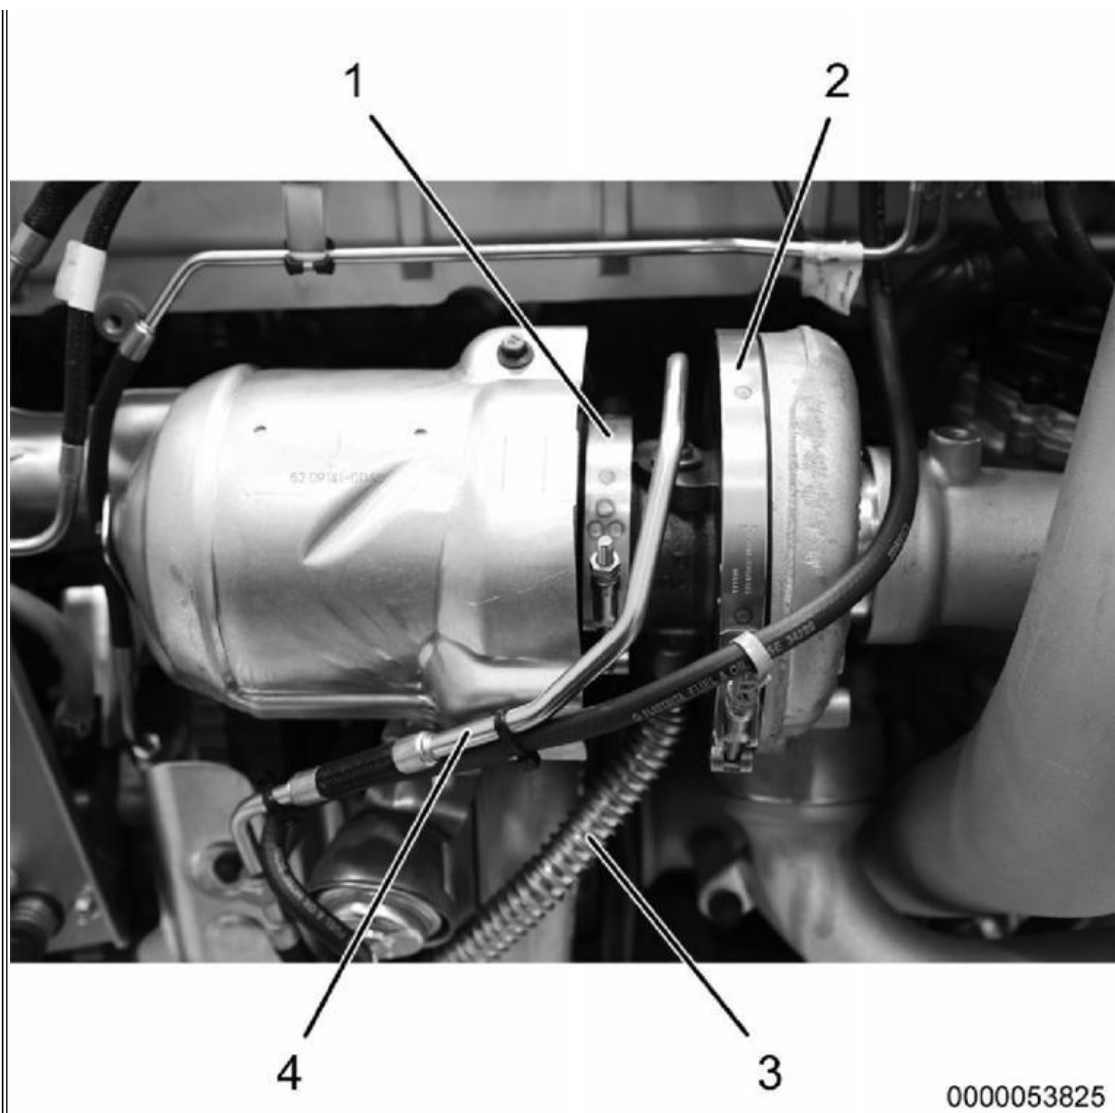

Figure 3: HP Turbocharger.
19. Remove and discard oil supply tube (Figure 3, Item 4) from vehicle.
20. Disconnect oil return line (Figure 3, Item 3) from HP turbocharger only. Discard gasket.
21. Remove HP turbocharger turbine housing V-band clamp (Figure 3, Item 1). Discard V-band clamp.
9. Install and torque new V-band clamp (Figure 3, Item 1) to 110 lb-in (12.4 N·m).